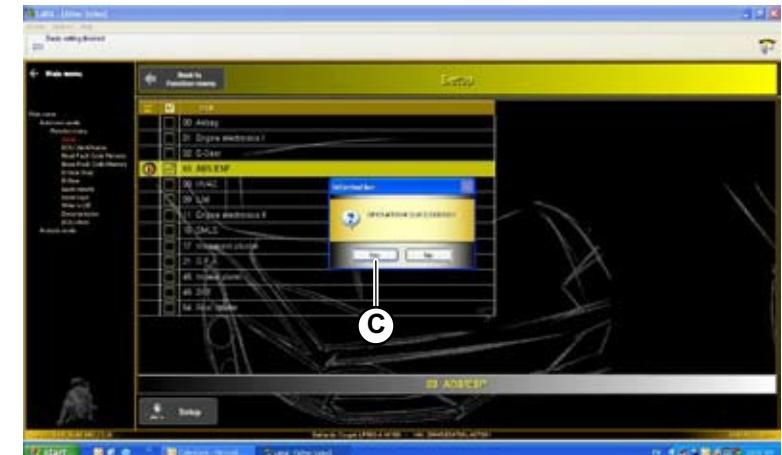

Fig.66
- Press YES (C-Fig.66) to continue.